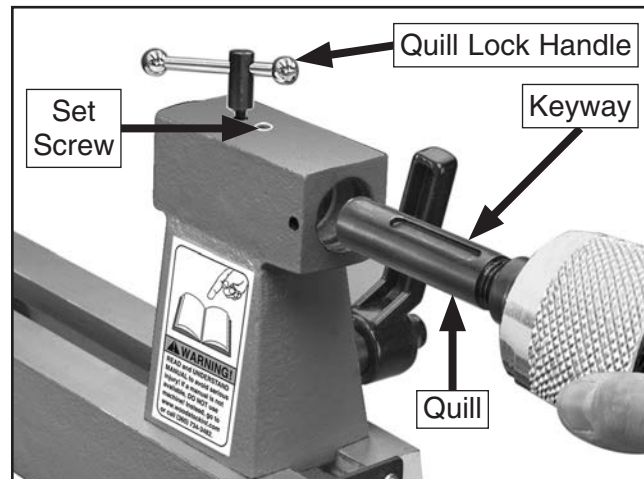

Figure 17. Tailstock quill alignment slot.
5. Make sure set screw (see **Figure 17**) is aligned with quill keyway to ensure center and quill will not freely rotate under load.